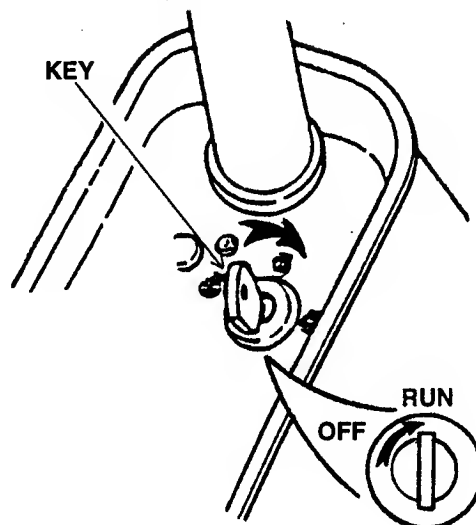

FIGURE 2.9
6. Turn key to "RUN" position. See Figure 2.9.